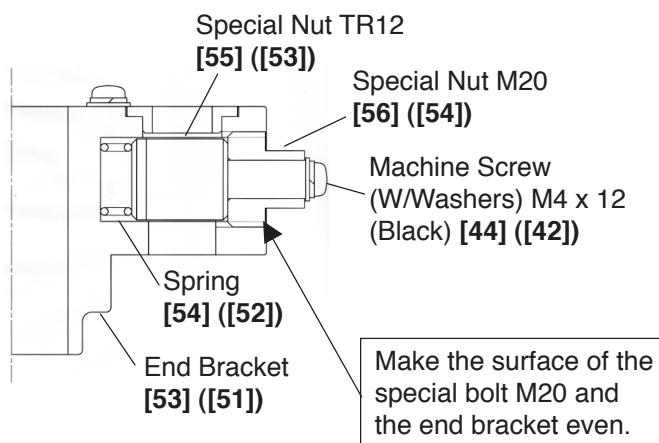
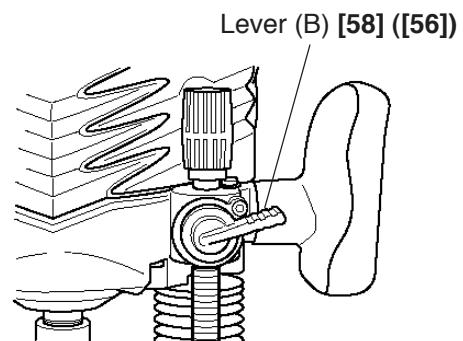

Fig. 16
Fig. 17
(1) Reassembly of the Special Nut TR12 [55] ([53]) (Fig. 16 and Fig. 17)
- Attach Lever (B) [58] ([56]) with the position as Fig. 17. And secure it with the Hex. Socket Set Screw M6 x 6 [59] ([57]).